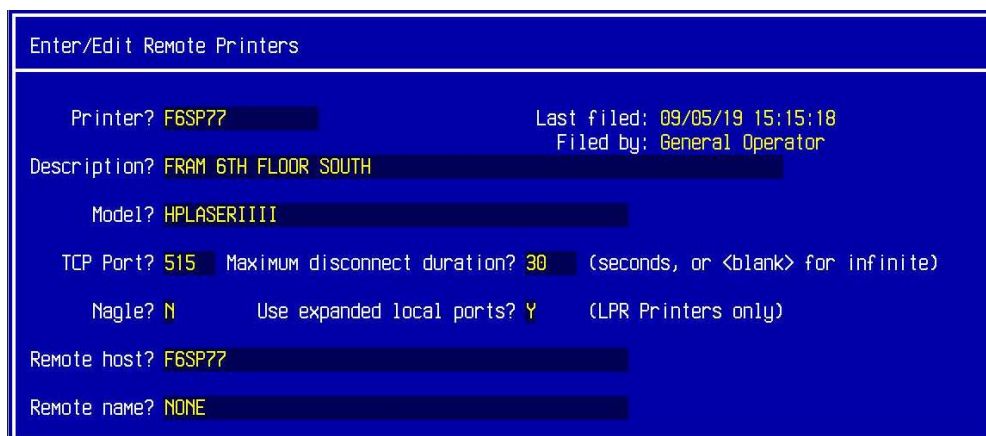
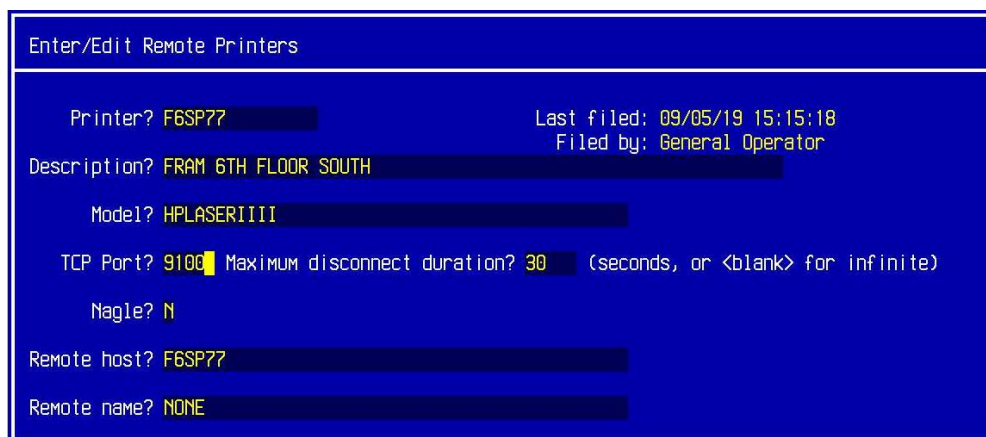

Figure 4a: Enter/Edit Remote LPR Printers Menu for OS 9.1 and newer OS's
Figure 4b: Enter/Edit Remote LPR Printers Menu for the 8.0 and newer OS's till 9.1
5. To add the printer to the MEDITECH environment, enter the following items at the Enter/Edit Remote LPR Printers Menu. See Figure 4a for the 9.1 and newer OS's and Figure 4b is for the 8.0 and newer OS's